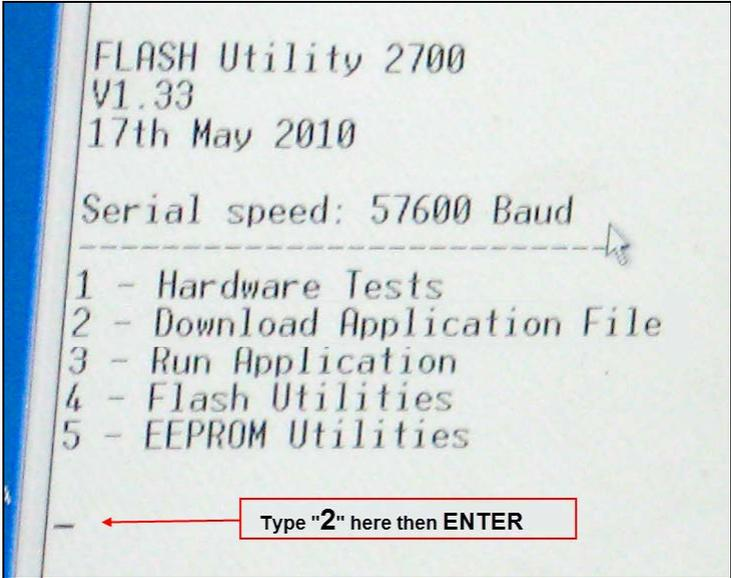

Fig.20
- 5. On the HyperTerminal, enter "2" (Download Application File) and press ENTER, This will erase V1.05 from the CANtrak flash memory (Fig.20).